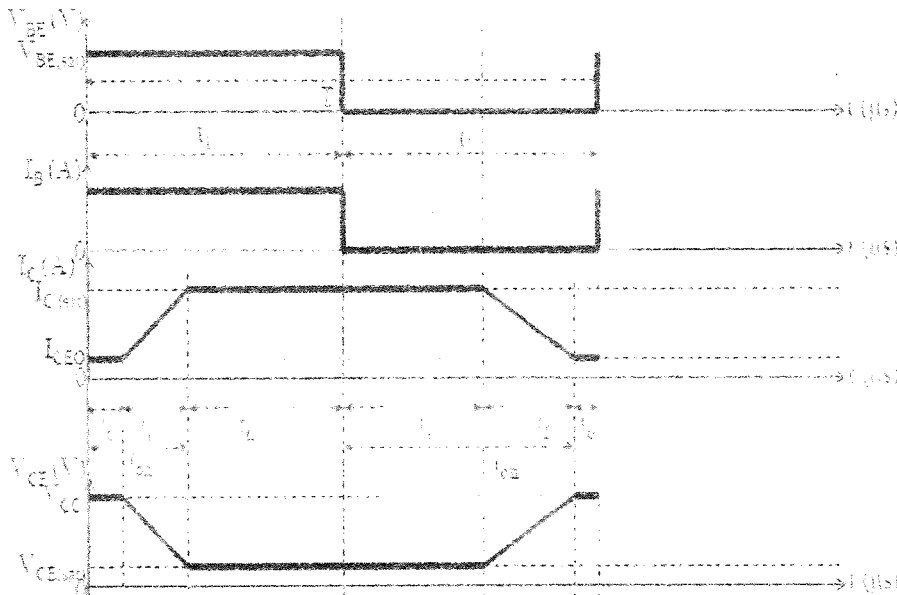

Fig. 1.
5. The switching characteristics of power BJT shown in Fig.1. The parameters are $V_{CC}=200V$, $V_{CE(sat)}=2V$, $I_{CEO}=2.5mA$, $I_{C(sat)}=80A$, $V_{BE(sat)}=2.5V$, $I_B=8A$, $t_d=0.4\mu s$, $t_r=0.9\mu s$, $t_s=5\mu s$, $t_f=3.2\mu s$, duty cycle (δ)=50% and switching frequency (f) is 10KHz. Sketch the instantaneous power curve due to collector current and determine average power loss (P_{AVIC}) due to collector current?
| 3 | <p>If the rate of rise of forward voltage $\frac{dv_s}{dt}$ is high then resultant high charging current can turn-on the SCR even when gate voltage is zero. This can be avoided by using a Snubber circuit connected in parallel with the device as shown in Fig. 1.</p> <div style="text-align: center;"> </div> <p>Fig. 1.</p> <p>The Snubber circuit is a series combination of resistance R_s and capacitance C_s. When SCR is off C_s charges to a voltage</p> | 01+01+01 02 01 | 10 min |